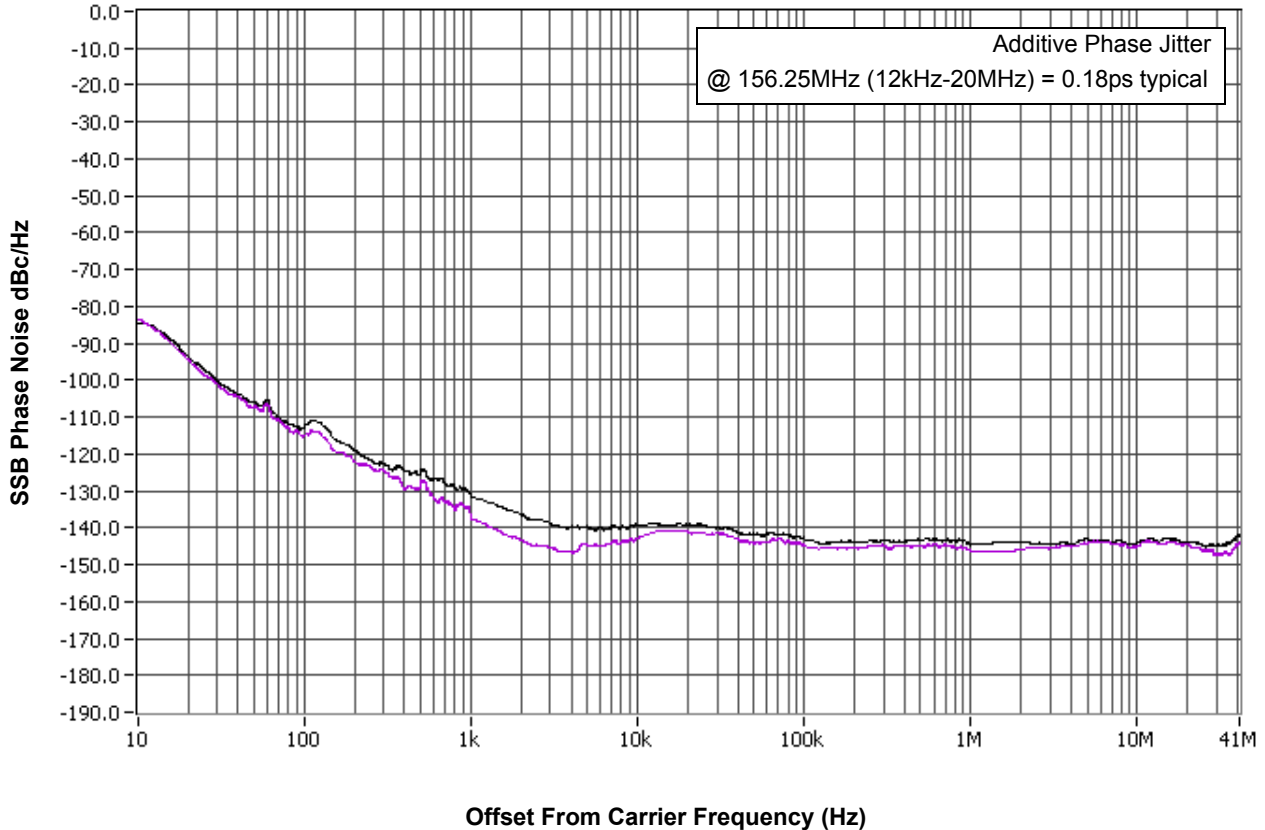

**Figure 2. TTL Output Loading Used for Device Evaluation**
1. LVTTTL output  $R_L = 500 \Omega$  to GND and  $C_L = 20$  pF to GND. Refer to Figure 2.